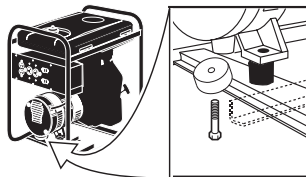

Figure 1
- (if equipped) Remove shipping block from under the gen head by unscrewing the bolt and remove the wood block. It is very important that this is removed before starting your generator. See Figure 1.